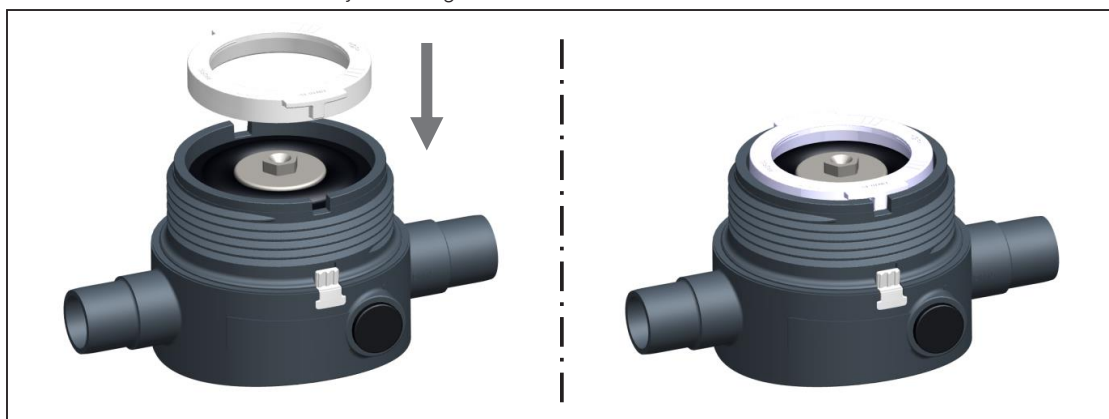

Fig. 13
- ▶ Place the retaining ring. During this, ensure that both projections of the retaining ring lie in the notches of the body, see Fig. 13